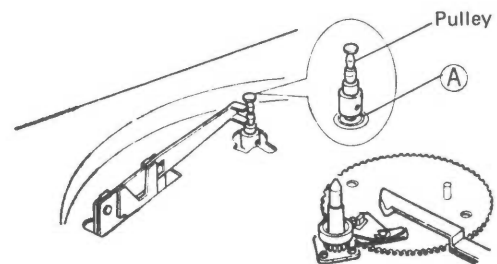

Fig. 26
Use a high quality sewing machine oil to lubricate the pulley shaft (A) as shown in Fig. 26 for every 1,000 – 2,000 hours of operation under normal use. Be sure to unplug the power cord before lubrication. For professional or frequent use, lubricate once or twice a month.